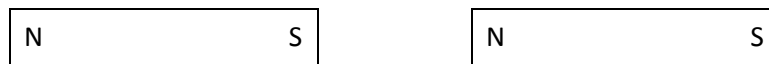

Figure 3
5. Place the two circular magnets into the centre tube of the oil filled container, arranged as shown in Figure 3, with unlike poles facing. Be sure not to let the magnets touch one another.